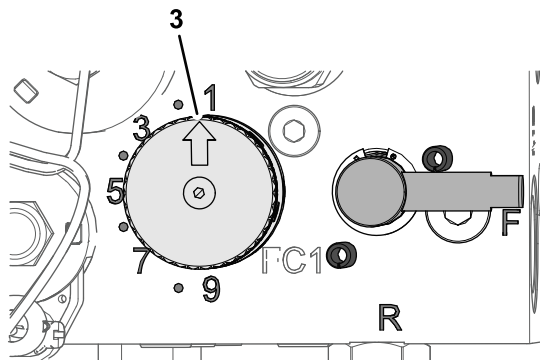

Figure 51
5. To adjust the reel speed by rotating the knob of the reel-speed control (Figure 51) until the indicator arrow are in line with the number that you determined in step 3.